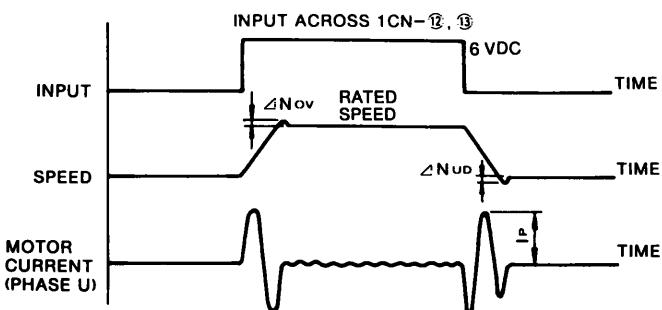

Fig 10.3 Start-Stop Characteristics
- (3) Start-stop characteristics (Fig. 10.3)